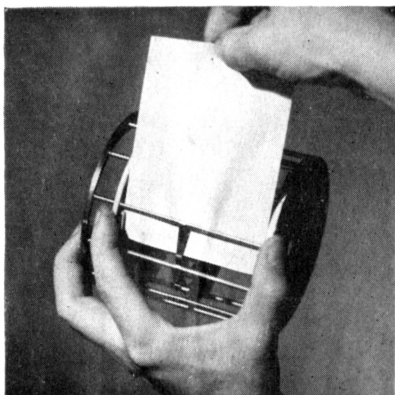

Figure 2
3. Insert the films in the cage as shown in figures 2 and 3.